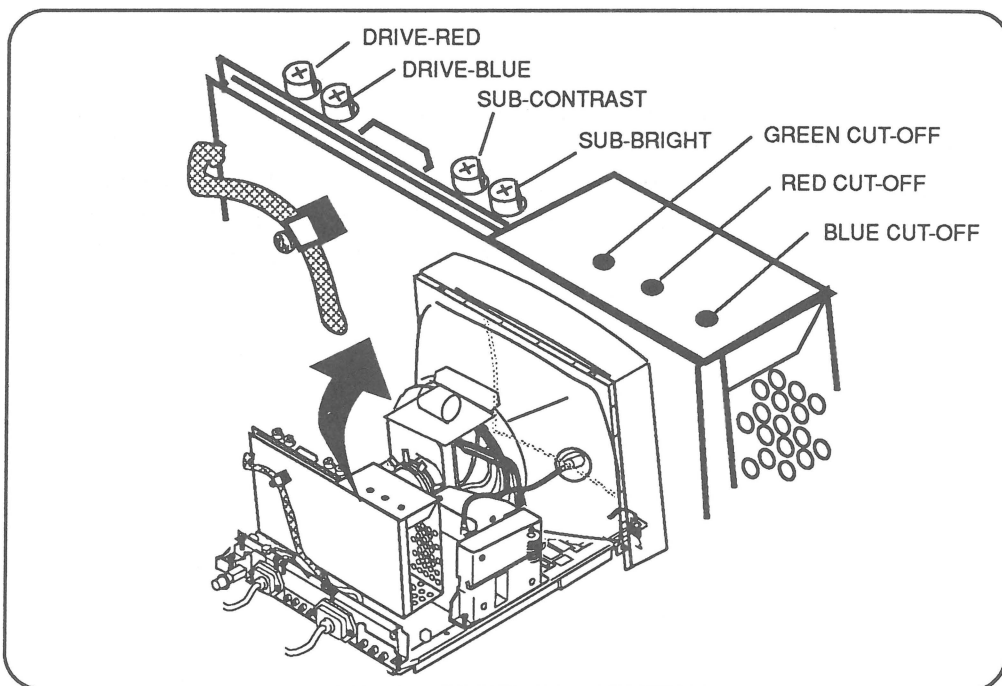

Figure 3-15 Video Adjustment Controls
4. **Figure 3-15.** Preset these adjustment controls:
5. **Figure 3-15.** Adjust the SUB-BRIGHT control (VR202) until you cannot see the raster (turn the control down, or counterclockwise, as necessary), and then turn the SUB-BRIGHT control up (clockwise) until the raster is visible.
6. **Figure 3-15.** If the entire screen is not tinted green (but dark), adjust the GREEN CUT-OFF control until green is the predominant color. **(The entire screen should be obviously tinted green, but dark.)**